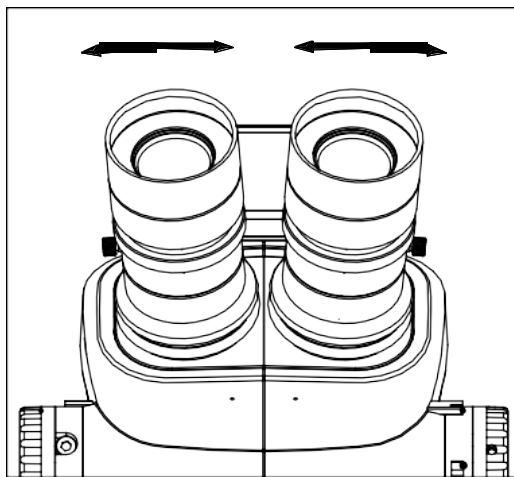

Fig.4
1. Hold the right and left eyepiece tubes, and then push or pull the tubes in the direction of the arrow until observation is comfortable. (Fig.4)